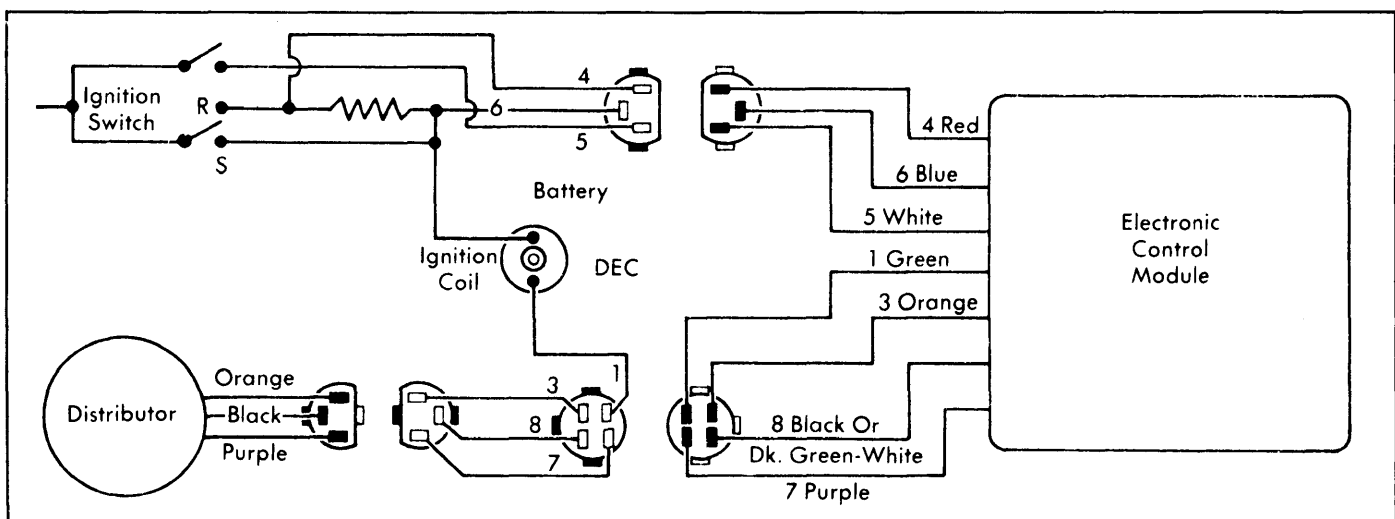

Fig. 1: 1975 Motorcraft Solid State Ignition System Wiring Diagram
- 1) With ignition off, check secondary resistance between coil "DEC" (negative) terminal and coil tower. See Figs. 1 and 2. Resistance should be between 7000-13,000 ohms.
Dura-Spark II & Solid State Ignition - Check resistance between Red wire (pin No. 4) and coil "BAT" (positive) terminal. See Figs. 1